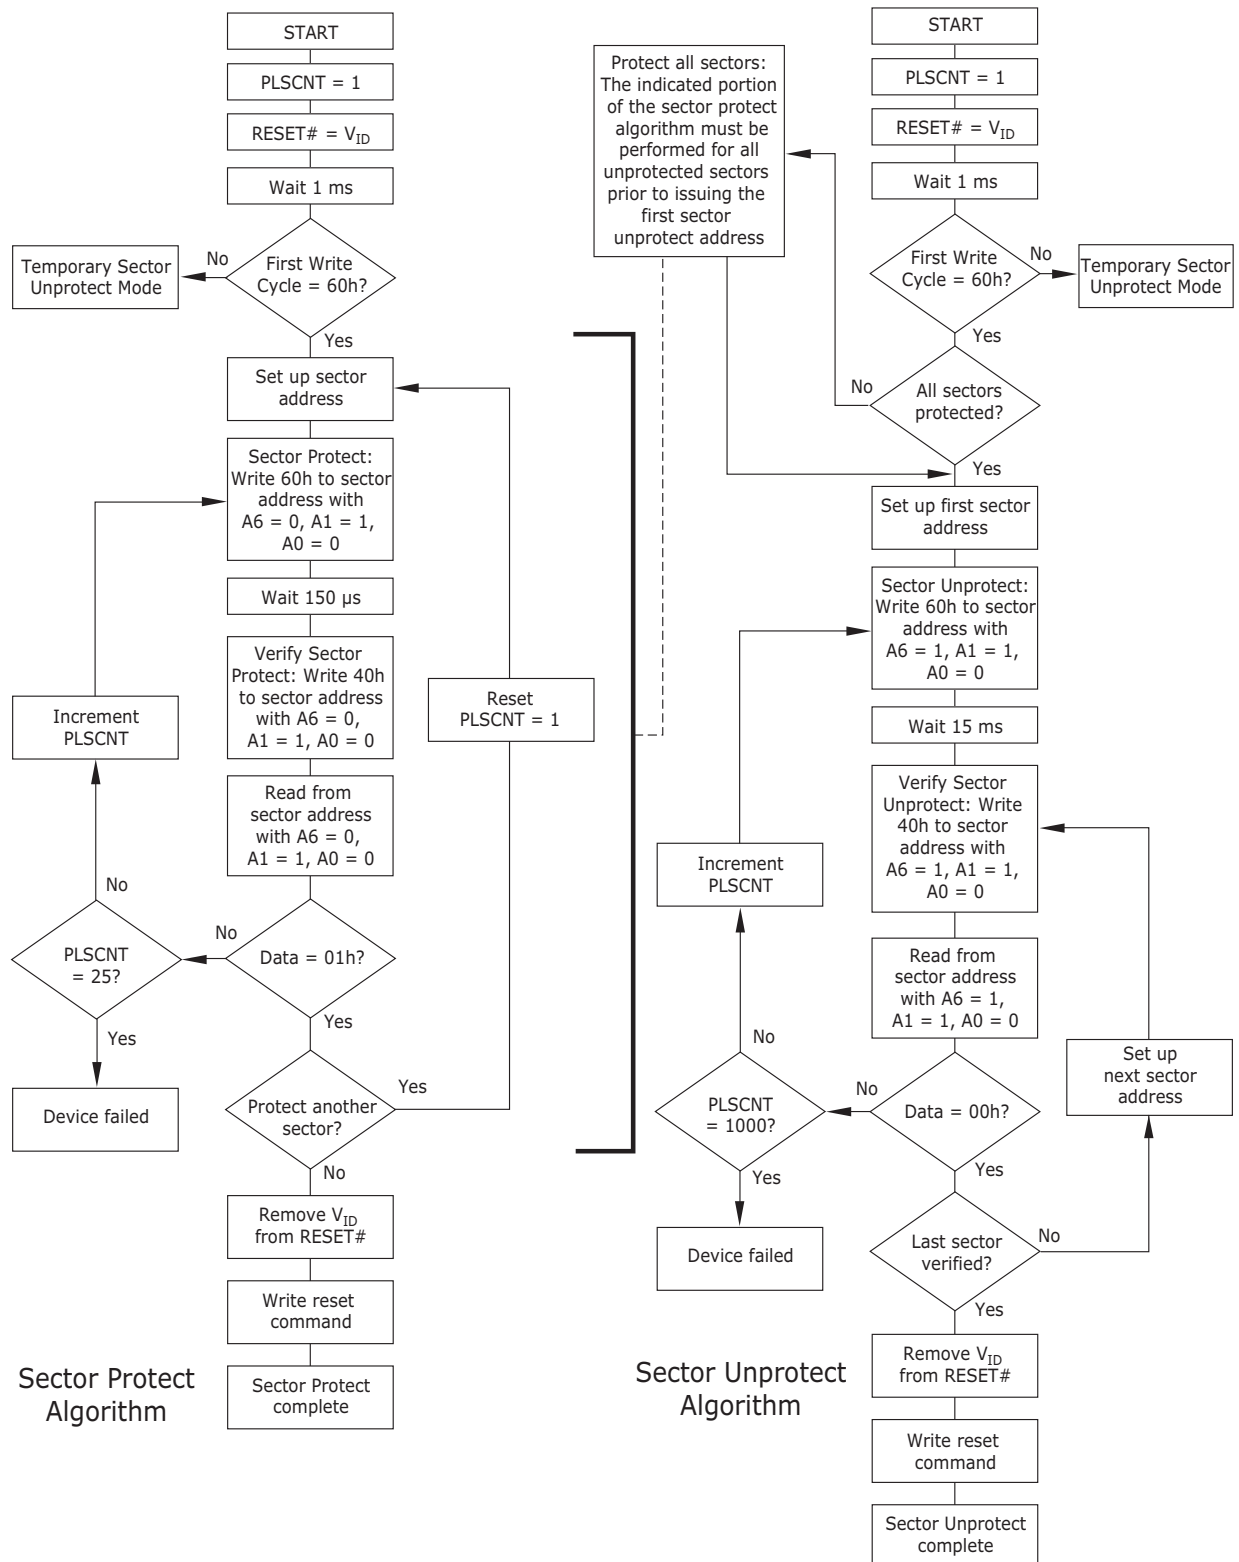

Figure 2. In-System Sector Protect/Unprotect Algorithms
Sector protect/Sector Unprotect requires V_{ID} on the RESET# pin only, and can be implemented either in-system or via programming equipment. Figure 2 shows the algorithms and Figure 26 shows the timing diagram. For sector unprotect, all unprotected sectors must first be protected prior to the first sector unprotect write cycle. *Note that the sector unprotect algorithm unprotects all sectors in parallel. All previously protected sectors must be individually re-protected.* To change data in protected sectors efficiently, the temporary sector unprotect function is available. See "Temporary Sector Unprotect".
- Write the three-cycle Enter SecSi Sector Region command sequence, and then follow the in-system sector protect algorithm as shown in Figure 2, except that *RESET#* may be at either V_{IH} or V_{ID} . This allows in-system protection of the SecSi Sector Region without raising any device pin to a high voltage. Note that this method is only applicable to the SecSi Sector.